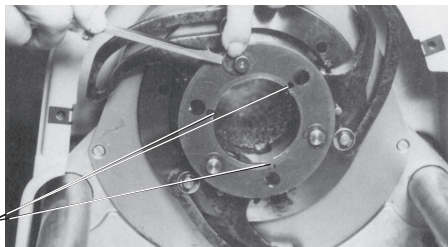

Figure 2 – Front retainer plate with slots (1822 shown)
2. Inspect the threading machine and confirm that it has a front retainer plate with slots for the adapter key (See Figure 2). If needed, obtain and install new retainer plate with slots.